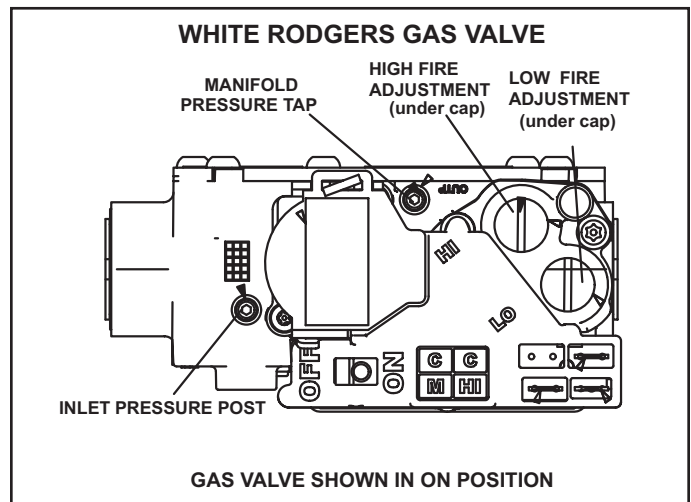

FIGURE 29
Gas Valve Operation (FIGURE 29)
- 6 - Move switch on gas valve to OFF. Do not force. See FIGURE 29.
- 8 - Move switch on gas valve to ON. Do not force. See FIGURE 29.
- 4 - Move switch on gas valve to OF. Do not force. See FIGURE 29.
An inlet post located on the gas valve provides access to the supply pressure. See FIGURE 29. Back out the 3/32 hex screw one turn, connect a piece of 5/16 tubing and connect to a manometer to measure supply pressure. See TABLE 27 for supply line pressure.
A manifold pressure tap located on the gas valve provides access to the manifold pressure. See FIGURE 29. Back out the 3/32 hex screw one turn, connect a piece of 5/16 tubing and connect to a manometer to measure manifold pressure.
- 4 - If necessary, make adjustments. FIGURE 29 shows location of high fire and low fire adjustment screws.